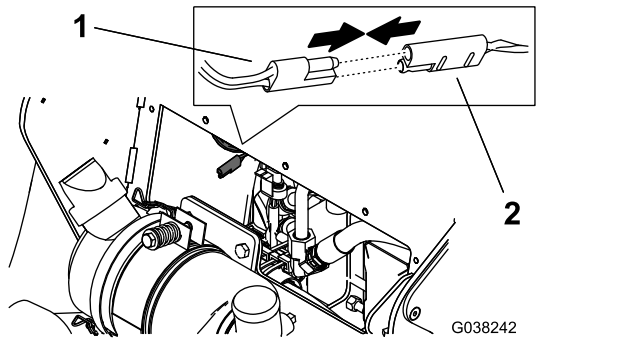

Figure 29
- 3. Unplug the cap from the auxiliary connector on the machine wire harness and connect the kit wire harness to the connector (Figure 29).